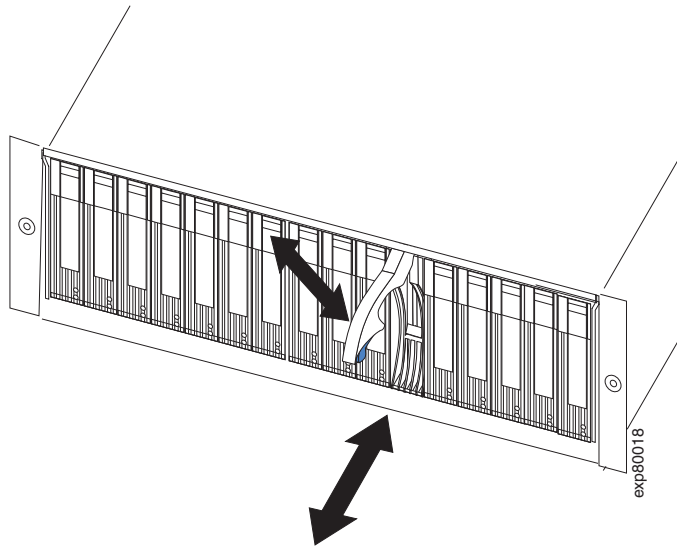

Figure 16. Removing a EV-DDM CRU
4. Pull the EV-DDM out of the bay, as shown in Figure 16 on page 30.